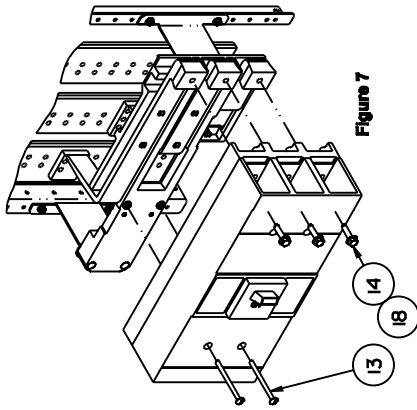

Figure 7
8. Reference fig. 7 - Installing a LMD or MG Frame Circuit Breaker. Insert one 3/8-16 X 1-1/4" machine screw (item 14) and Belleville washer (item 18) through each of the three contacts on the line side of the breaker and into the $\varnothing 0.344$ " diameter holes at the end of the three Phase Connectors. Insert two 1/4-20 X 4-1/4" threaded forming screws (item 13) into the two mounting holes at the line side of the breaker and into the two $\varnothing 0.228$ " diameter holes in the breaker mounting bracket and tighten. Torque all connections to the values specified on the rear of the dead front.